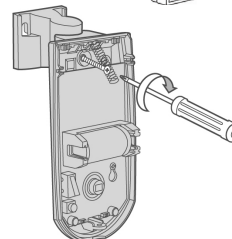

Fig.4
4. Mount the detector base to the wall, corner or ceiling. (For option with bracket see fig.4).